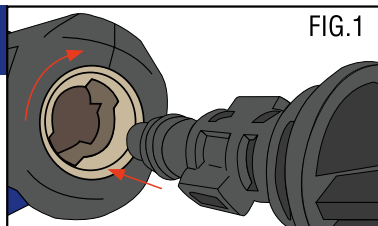

FIG.1
2. To use with Multi-Use Nozzle, insert small end of nozzle into HydroJet X5, and turn clockwise until locked in place. See Fig.1 + 2
2. To use with Metal Rod Extension, insert plastic end of rod into HydroJet X5, and turn clockwise until locked in place. See Fig. 1
2. To use with Car Wash Soap Bottle, insert small end of the bottle into HydroJet X5, and turn clockwise until locked in place. See Fig. 1